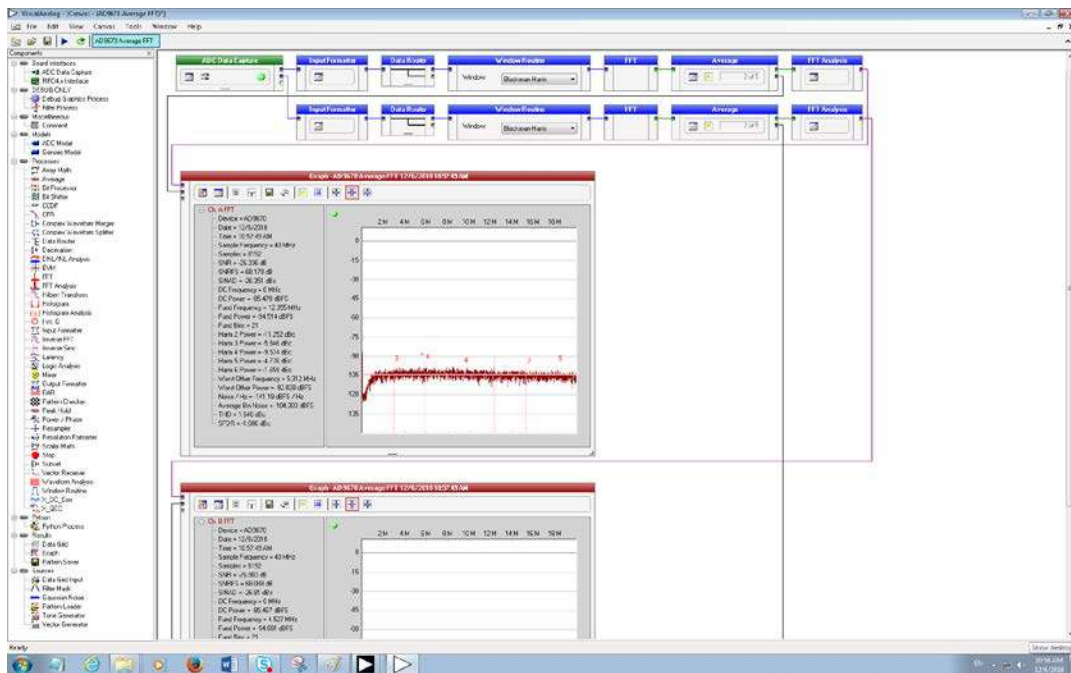

Figure 11. Average FFT Canvas
- Figure 11 shows both the FFT output and how the analog and digital high-pass filters shape the noise floor in the low frequency region.